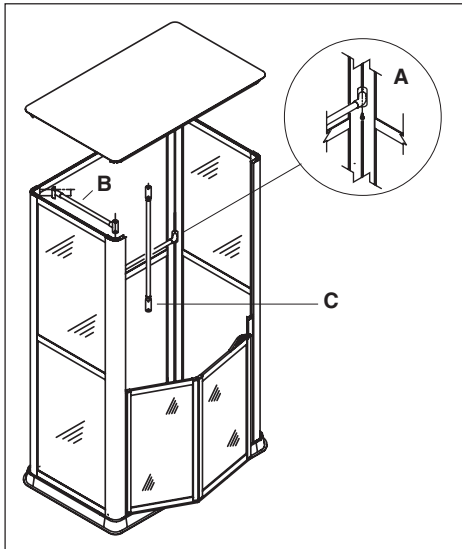

Fig 4.7
8. Fig 4.7 Position the grab rails onto the factory fitted securing blocks. Secure via 2 M4x6mm screws provided (see inset).